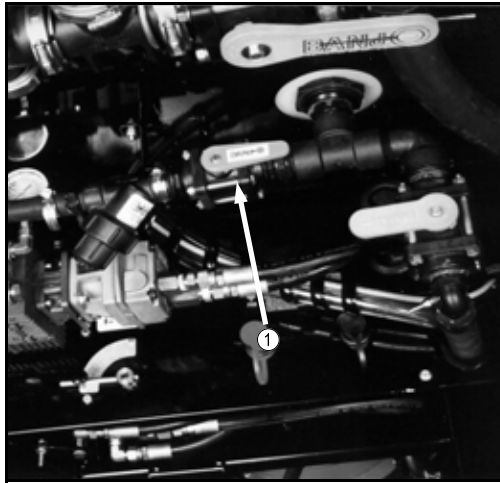

FIG 5.97
1. If equipped with pressure washing system option, close rinse supply valve to washer pump (fig. 5.97, item 1).